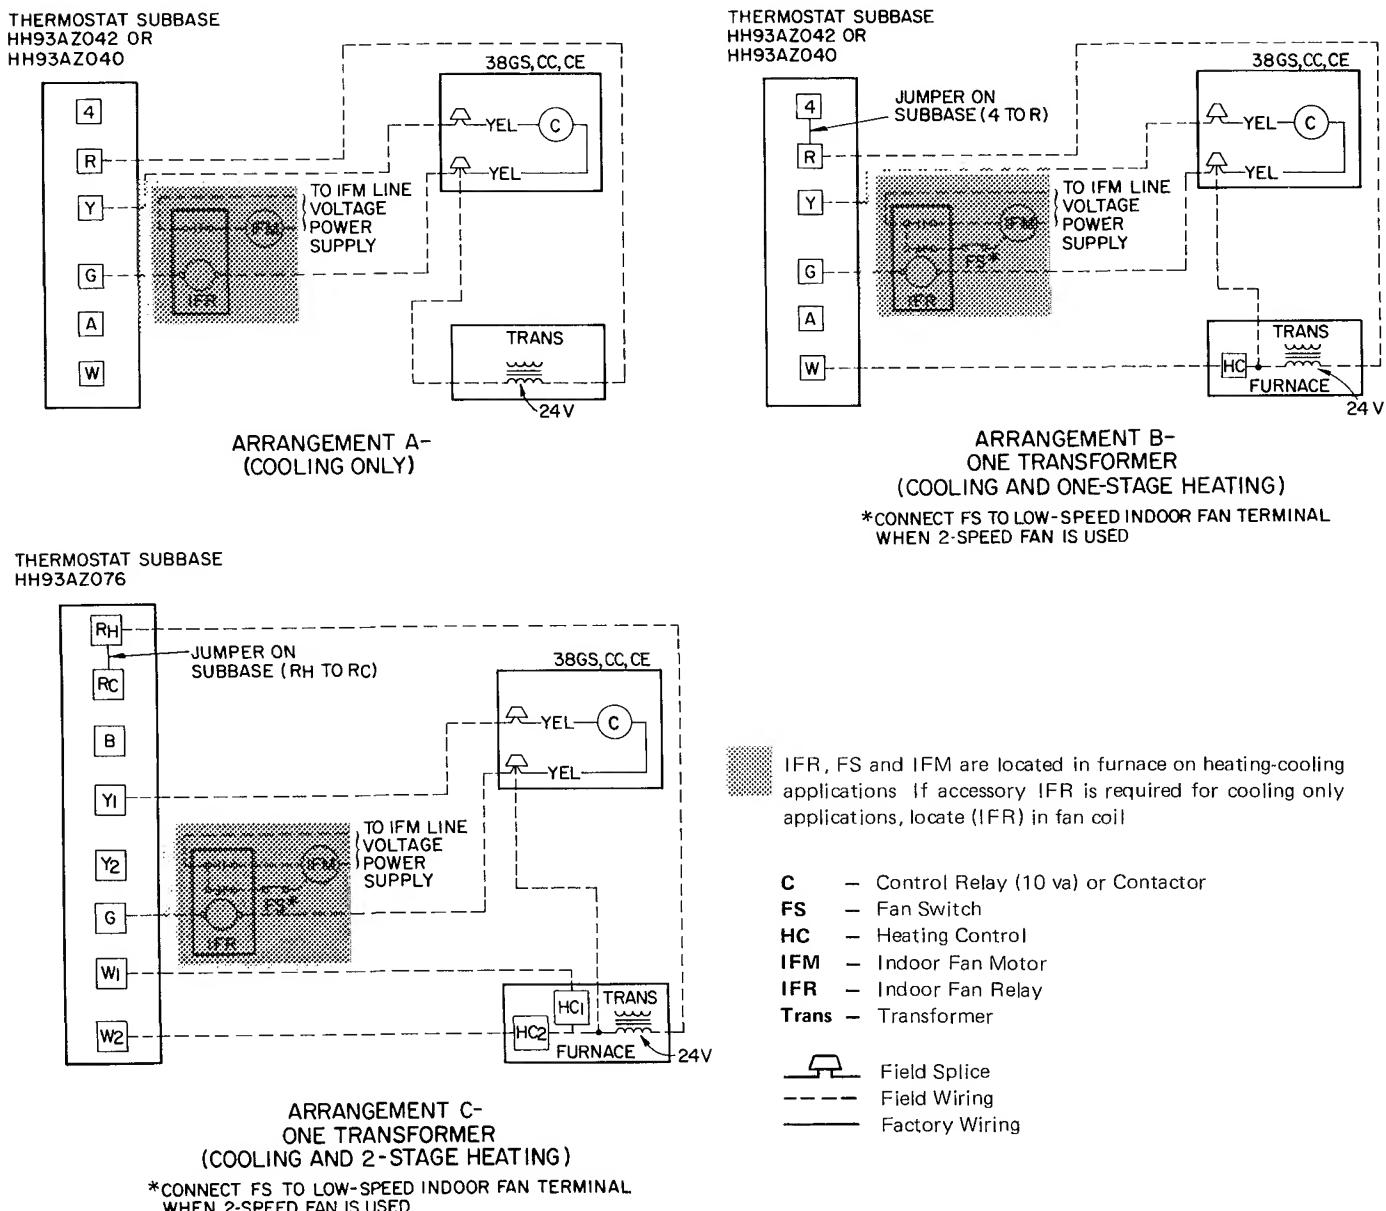

Fig. 4 – Control Circuit Connections
**Control Power** (24 v) wiring is brought thru hole in service embossment and spliced to yellow pigtailed on all units. See Fig. 4.
*Furnace or fan-coil transformer must be used as 24-v supply for system as shown in Fig. 4 (At least a 40-va transformer is recommended.) Current 38GS048,060 and 38CC048,060 units are equipped with a low-voltage transformer used to power contactor thru unit control circuit. This transformer must not be used for powering the indoor thermostat control circuit.*